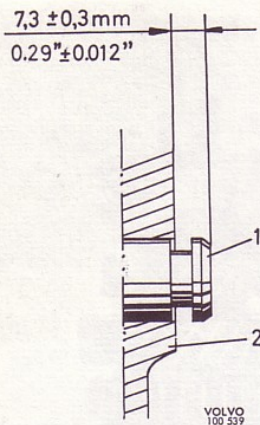

Fig. 29. Fitting reverse shaft
1. Fit the lever and guide stud. Fit the reverse gear and reverse shaft. Ensure that the groove in the reverse shaft (early prod.) is turned correctly. The late production reverse shaft, with turned groove, is fitted so that it projects 7.0—7.6 mm (0.276—0.300") outside the gearbox housing, see Fig. 29.